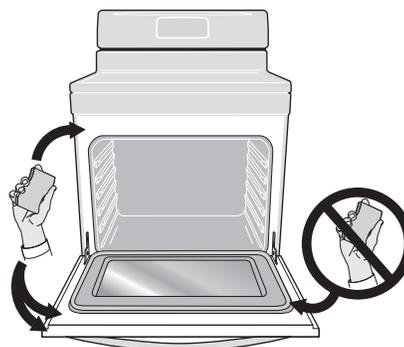

Figure 38: Do not clean the oven door gasket
12. Wipe oven cavity and bottom. Do not clean oven door gasket (See Figure 38).